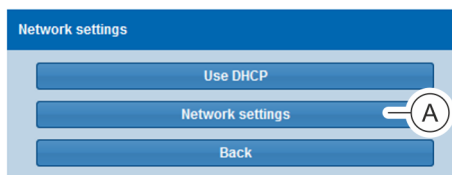

Fig. 45: "Network settings" window
- 7. In the "Network settings" window, click the 'Manual setup' button (Fig. 45/A).